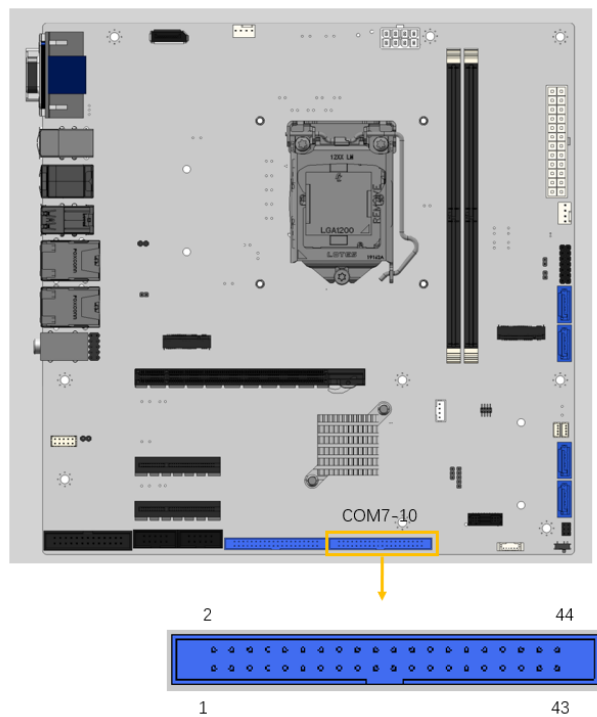

Figure 3-30: RS-232 Connector Locations
- CN Location:** See Figure 3-30